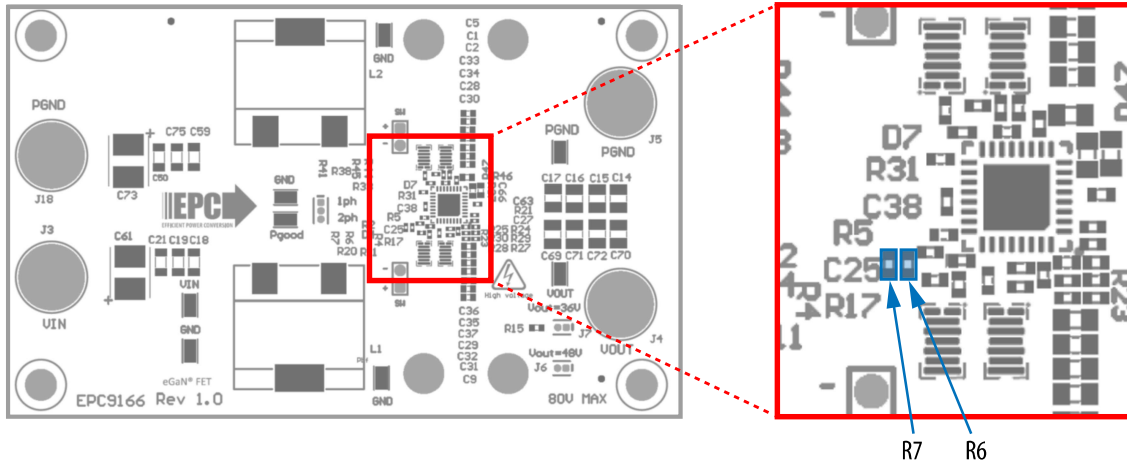

Figure 9: EPC9166 UVLO settings: location of R6 & R7
The input UVLO threshold voltage can be set by R6 and R7 as shown in Figure 9. The default values of V_{uv} are listed in table 1. If needed, a new UVLO voltage and hysteresis can be set by changing R6 and R7 using equation (1) and (2). Please refer to ISL81807 datasheet for more information.